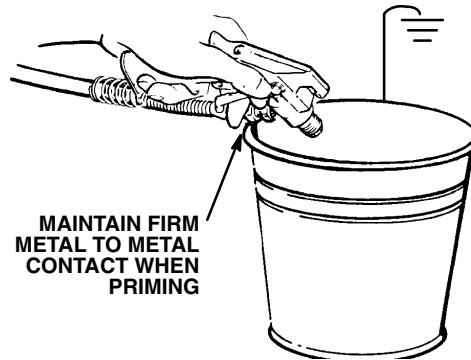

Fig 12-1
6. **To prime the pump**, hold a metal part of the gun firmly against and aimed into a metal waste container. *See Fig 12-1.* Squeeze the trigger and hold it open, turn the ON/OFF switch to ON, and slowly increase the pressure until the sprayer starts. Keep the gun triggered until all air is forced out of the system and the material flows freely from the gun. Release the trigger and engage the gun safety latch.